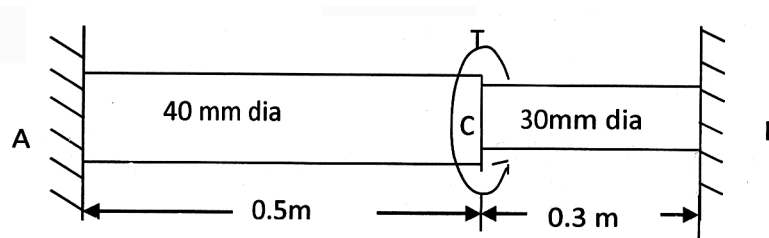

Fig. 8
6. (a) The stepped steel shaft shown in Fig. 8 is 800 mm long and fixed at both ends subjected to a torque  $T$  at C. If allowable shear stress is 70 MPa, find the safe value of torque  $T$  at C. [7]